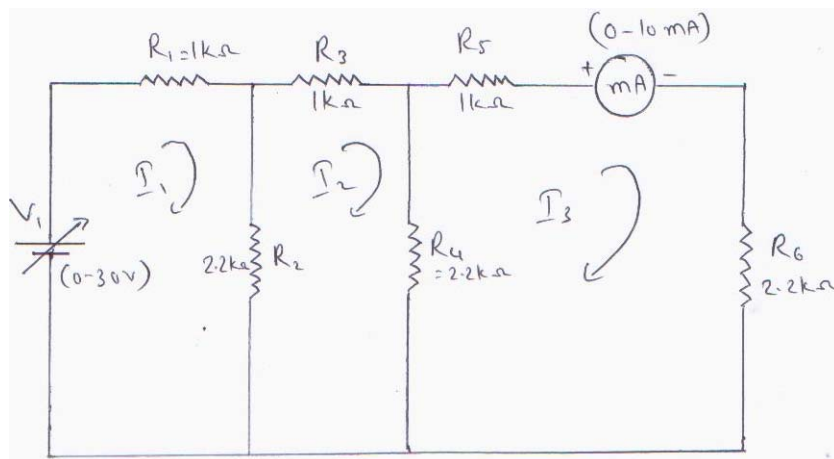

Figure 5.2
1. Connection are made as per the circuit diagram shown in figure 5.2